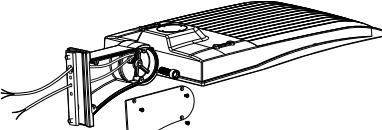

Figure 3
2. DIRECT MOUNTING (DM)
- Step 1: Remove the bracket mounting screws on the fixture, open the side lid of bracket and run the wires through the bracket. (Figure 3)